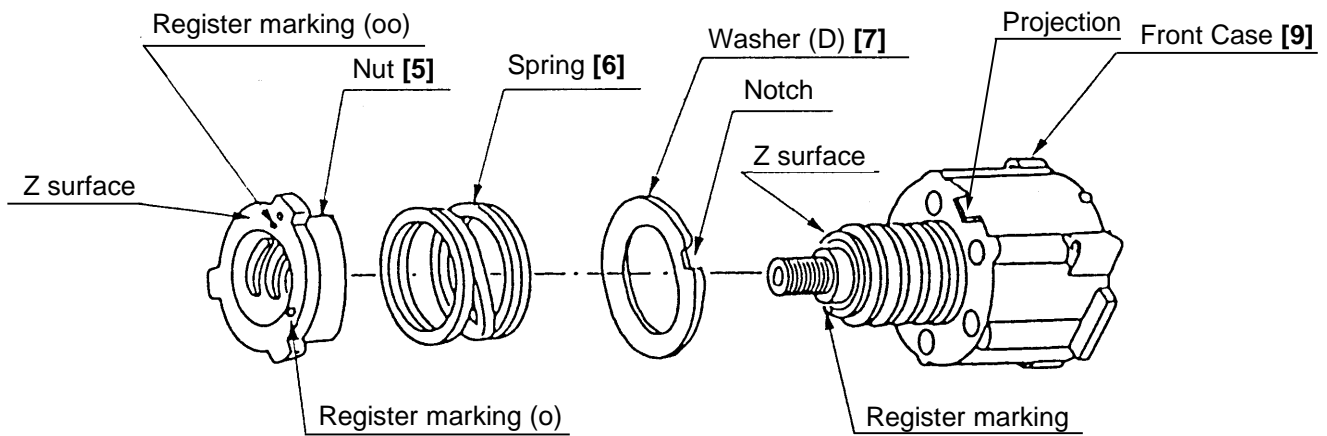

Fig. 9
(2) Reassembly of the clutch unit
(a) Install the Washer (D) [7] and the Spring [6] into the Front Case [9]. (See Fig. 9)